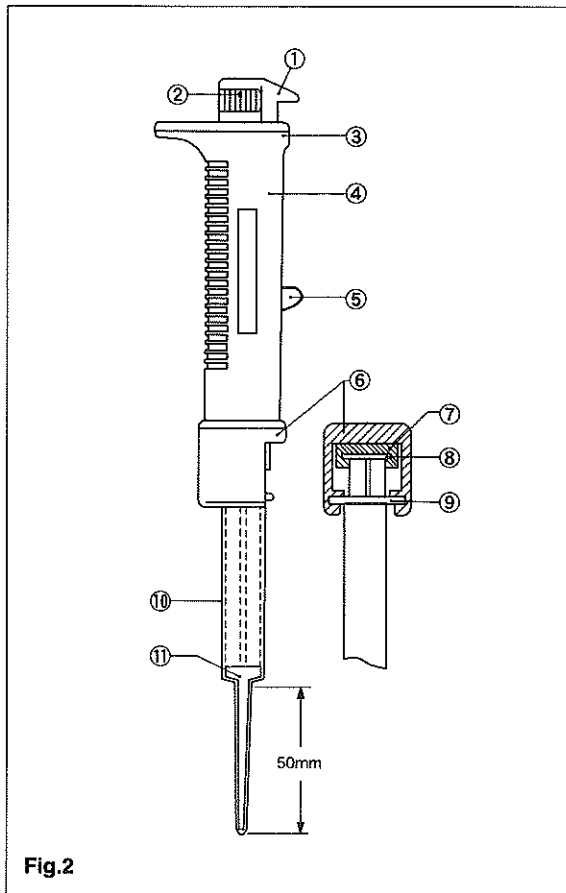

Fig.2
3. Push the syringe flange and the piston flange firmly into the syringe holder and the piston holder respectively.(Fig.2)
6. Pull the piston lever up so that the syringe is filled with liquid. It is recommended to minimize the volume of air in the syringe to obtain better accuracy and reproducibility.(Fig.2)